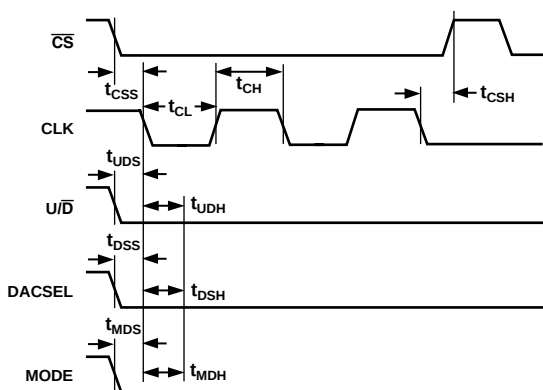

Figure 2. Detail Timing Diagram
The AD5222 provides a 128-position, digitally-controlled, variable resistor (VR) device. Changing the VR settings is accomplished by pulsing the CLK pin while $\overline{CS}$ is active low. The $U/\overline{D}$ (UP/DOWN) control input pin controls the direction of the increment. When the wiper hits the end of the resistor (Terminal A or B) additional CLK pulses no longer change the wiper setting. The wiper position is immediately decoded by the wiper decode logic changing the wiper resistance. Appropriate debounce circuitry is required when push-button switches are used to control the count sequence and direction of count. The exact timing requirements are shown in Figure 2. The AD5222 powers ON in a centered wiper position, exhibiting nearly equal resistances of R_{WA} and R_{WB} .